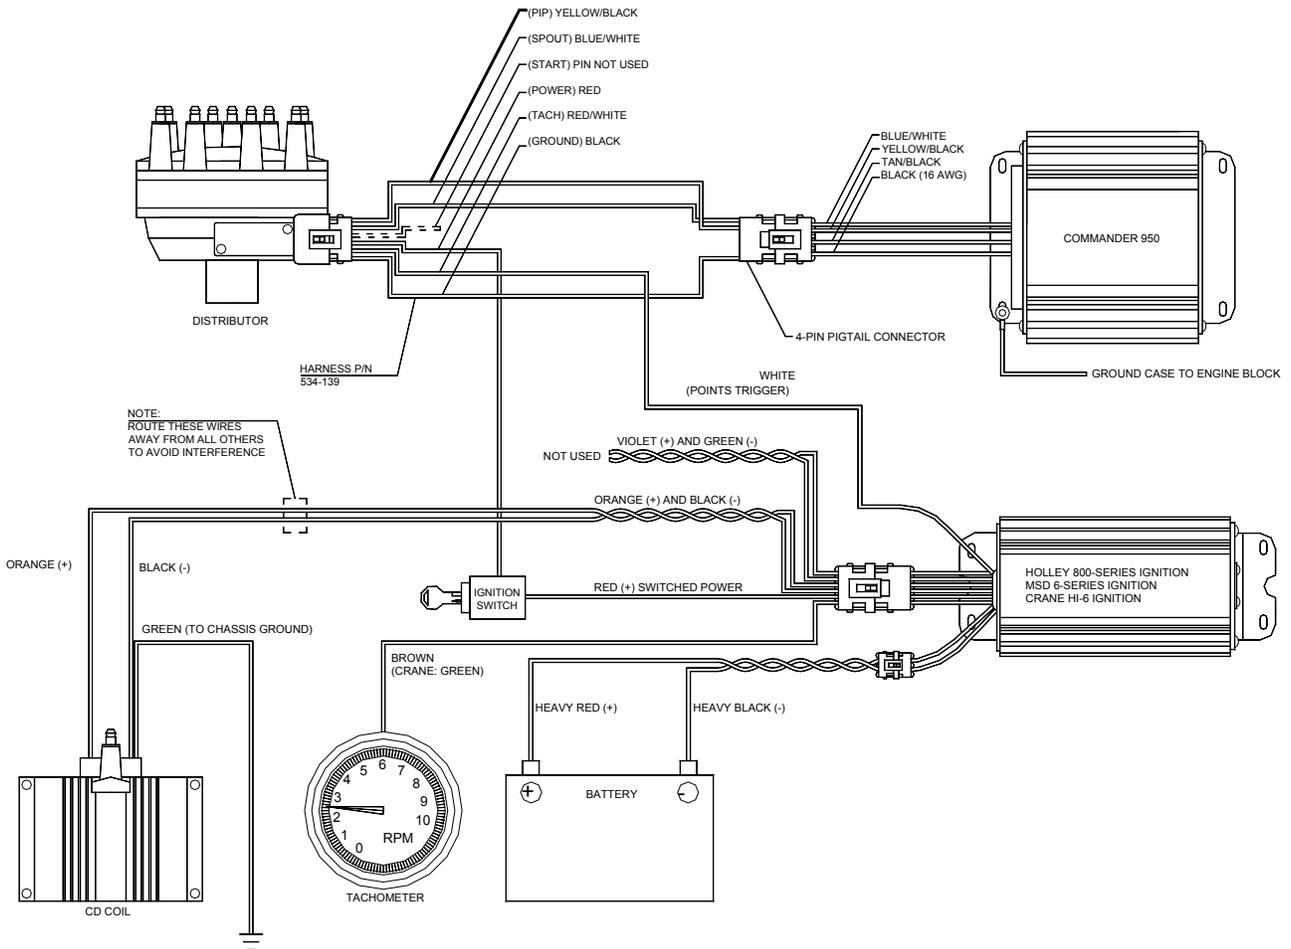

Figure 75
- Figure 75:** Commander 950 PRO to Aftermarket Ignition Using Ford Computer Controlled Distributor, TFI Module.